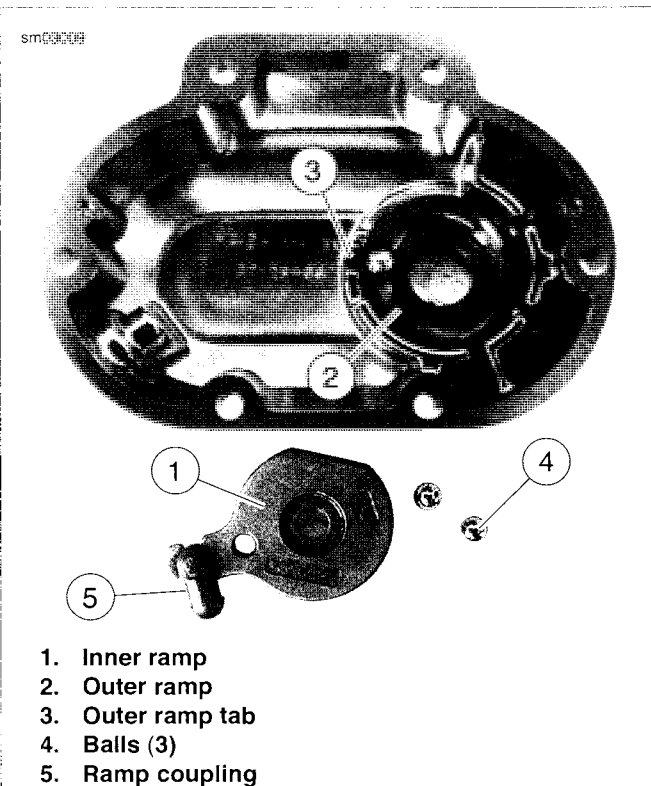

Figure 6-5. Coupling and Ramp Assembly
7. See Figure 6-5. Remove balls (4) and outer ramp (2).